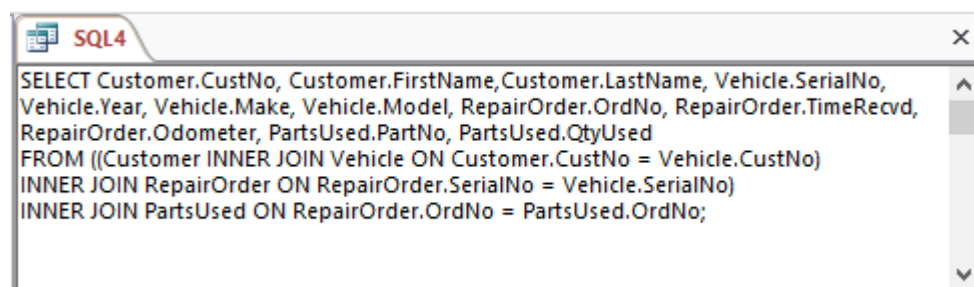

Figure 40: SQL Window Containing “SQL4”
6. Add a Table to the Query: To add the *PartsUsed* table to the query, type the additional code seen underlined below. The full SQL statement also appears in Figure 40. Note that you should add the *PartNo* and *QtyUsed* fields from the *PartsUsed* table since *OrdNo* is already contained in the query from the *RepairOrder* table.